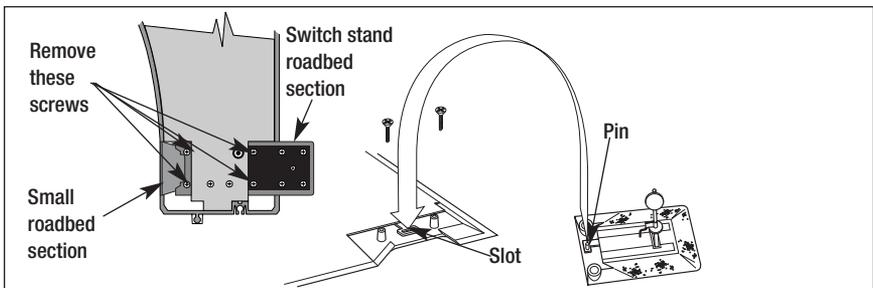

Figure 4. Switch stand installation
**Y**ou may choose to position the switch stands either inside or outside the loop of track. Follow these steps and refer to Figure 4 to change the location of the switch stands.